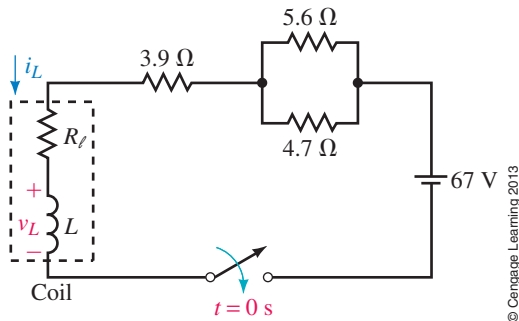

FIGURE 14–45
21. For the coil of Figure 14–45, $R_\ell = 1.7\ \Omega$ and $L = 150\text{ mH}$. Determine coil current at $t = 18.4\text{ ms}$.
22. Refer to Figure 14–46: